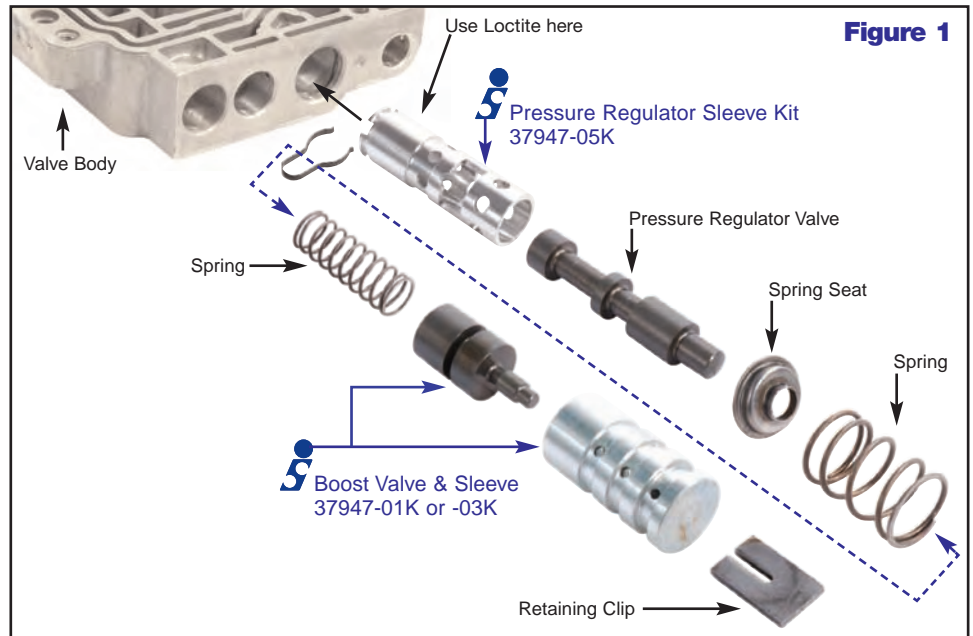

Figure 1
3. Remove sleeve and clean it and the bore with Loctite™ primer or comparable product. Install the sleeve until it is about .080" from bottoming in the bore. Place a small drop of Loctite™ or equivalent sleeve retaining compound onto the sleeve where it is exposed under an open slot. Place the Loctite™ on the sleeve in the location shown in Figure 1. Slide the sleeve the rest of the way in while twisting. Allow for complete cure time to make sure no Loctite™ gets on the valve during installation. (See Loctite™ or product instructions for curing time.) Once fully cured, install valve and stroke to ensure free movement.
4. Complete the assembly as pictured in Figure 1, installing the 37947-01K OEM ratio boost valve, the 37947-03K increased ratio boost valve, or the original boost valve.